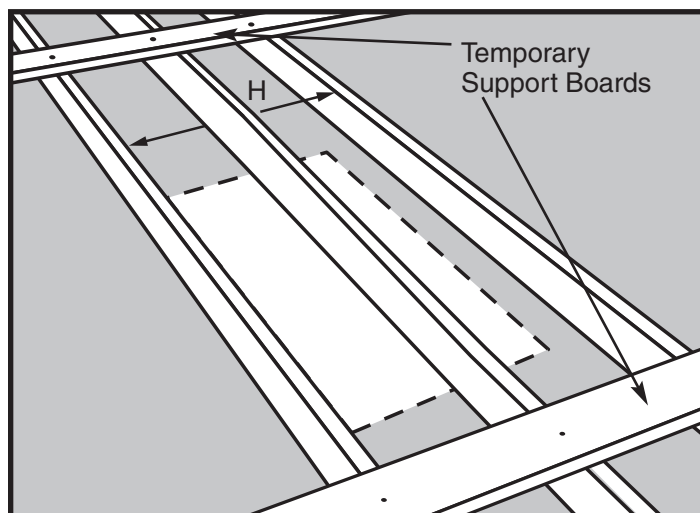

Figure 14
- STEP 1.** Measure the header length “H” between the uncut joists (See Figure 14).